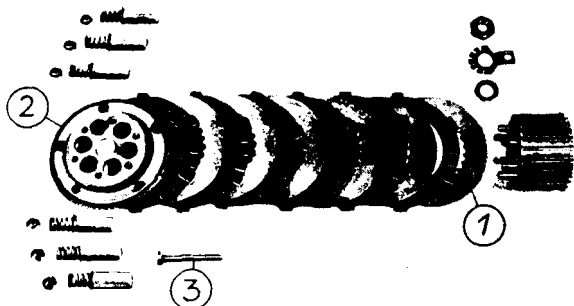

Fig. 60. Clutch dismantled
(1) Holding disk, (2) Spring plate, (3) Pressure pin
First fit the retaining disk, which is slightly thicker than the other ones, and then the other clutch disks in correct succession (Fig. 60). Grease the pressure pin on either side and put it into the clutch shaft. Mount the spring plate (1) in such a manner that the spring bolts (2) are exactly in the centre of the circular opening — this is ensured when the bolt (B) with colour spot (or punch mark on the clutch driver) and the curvature (A) of the opening are opposite each other. The spring caps and the compression springs must not jam or rub.